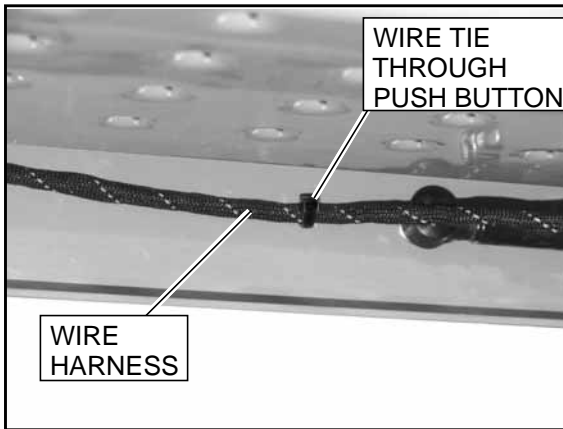
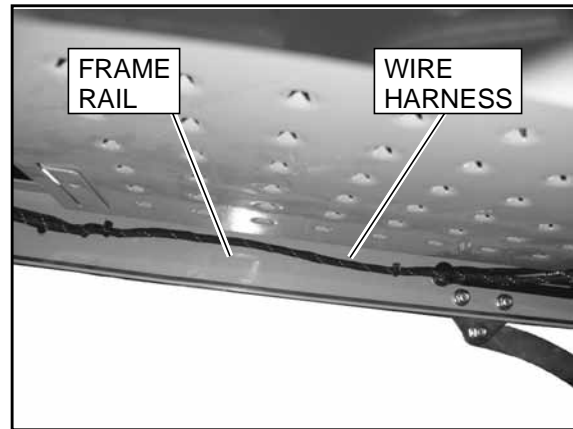
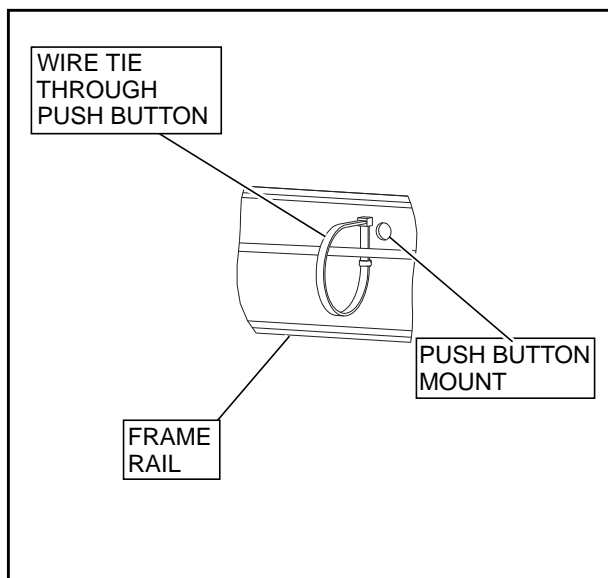

FIG. 9
FIG. 10
FIG. 11
12. Route the wire harness along the inside of the frame rail to the front of the mower (Fig. 9 & Fig. 10).
13. Secure the wire harness to the push button mounts, using wire ties (Fig. 9 & Fig. 11). Leave the wire ties loose.